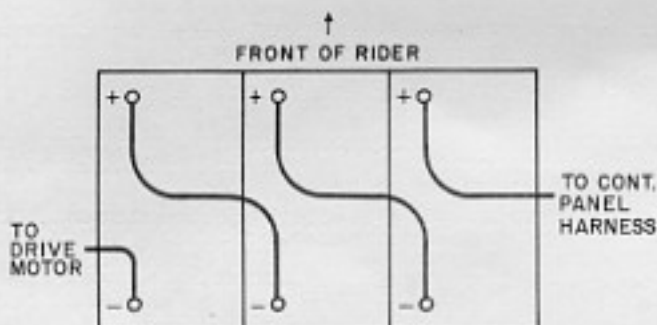
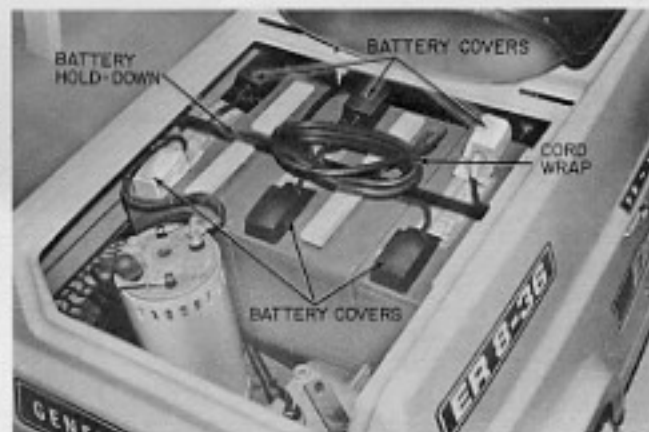

Fig. 24 Battery Wiring
Fig. 25 Battery Cover Installation and Cord Wrapped on Hold-Down
20. Connect the connecting cable from the battery on the left to its negative terminal. Connect the connecting cable from the battery on the right to its positive terminal. (See Fig. 24.)
22. Arrange the connecting cables as shown in Fig. 24. Place the six battery covers over the terminal connections as shown in Fig. 25.
23. Wrap the charger cord around the two upright springs of the battery clamp to keep it from falling out of the compartment. (See Fig. 25)